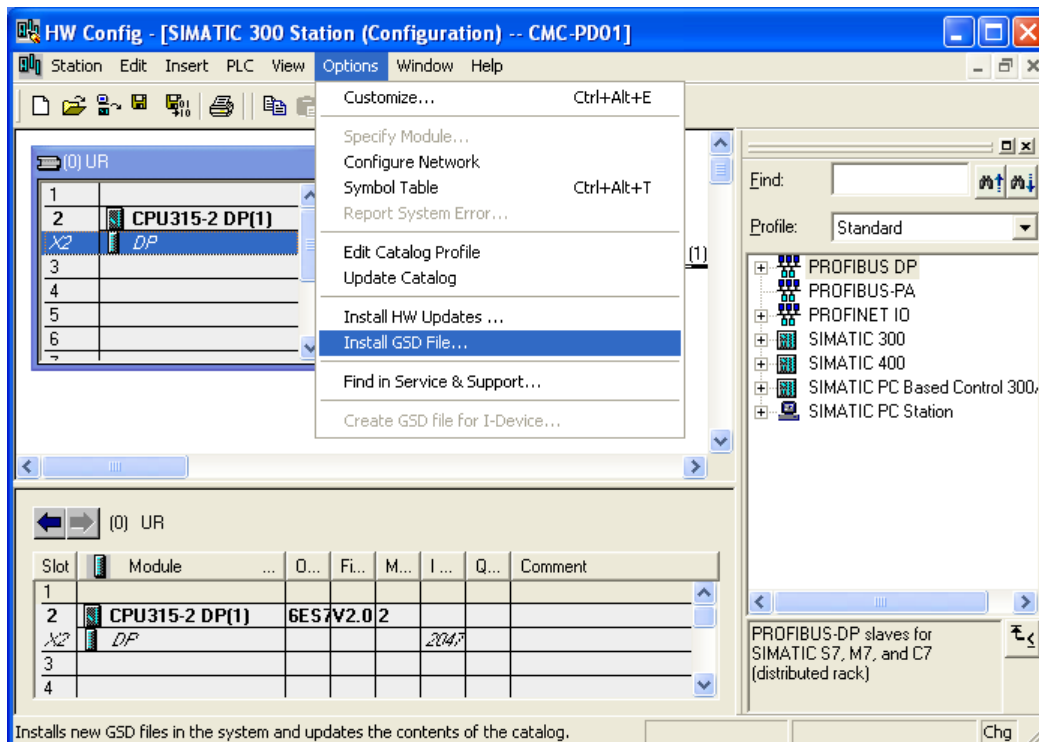

Figure 7-17
- Select “Options” => “Install GSD File” in the HW Config window. See Figure 7-17.